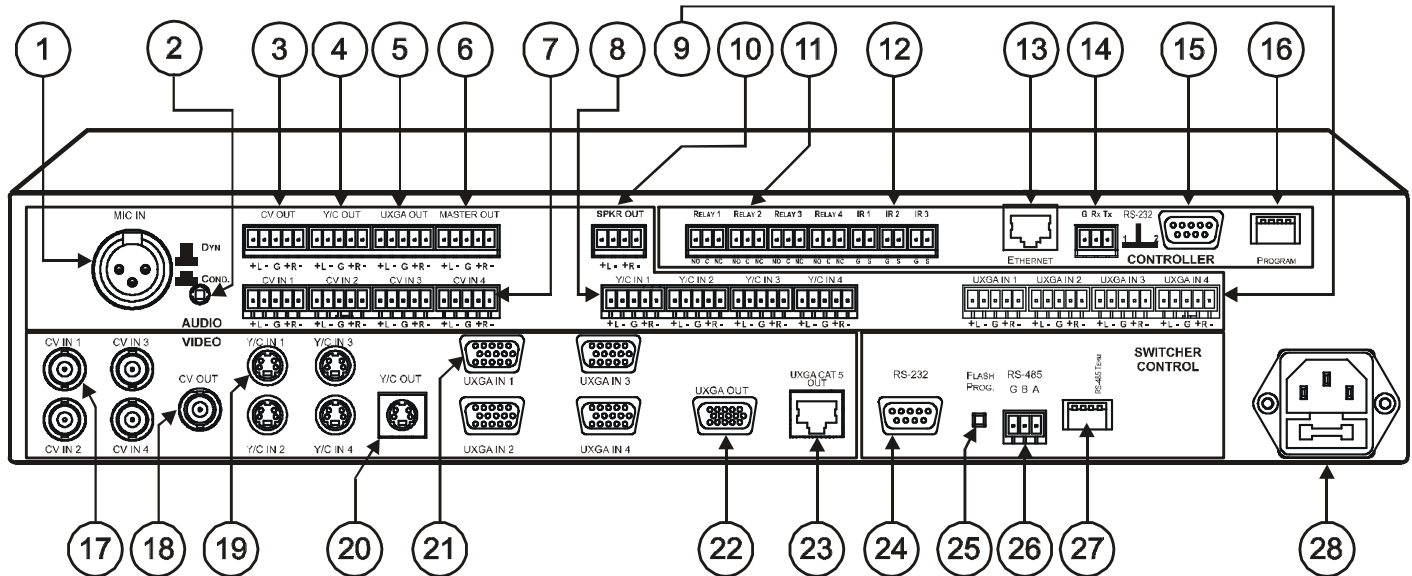

Figure 3: VP-23RC Presentation Switcher / Controller – Rear View
⁵ The RS-232 terminal block port (item 14 in Figure 3) is also used for firmware upgrade
¹ The RS-232 port (item 24 in Figure 3) located in the SWITCHER CONTROL area of the rear panel
Figure 3 and Table 3 define the rear panel of the **VP-23RC**.
7 Use the Con / Dyn switch (refer to the rear panel, item 2 in Figure 3) to select a dynamic microphone or a condenser